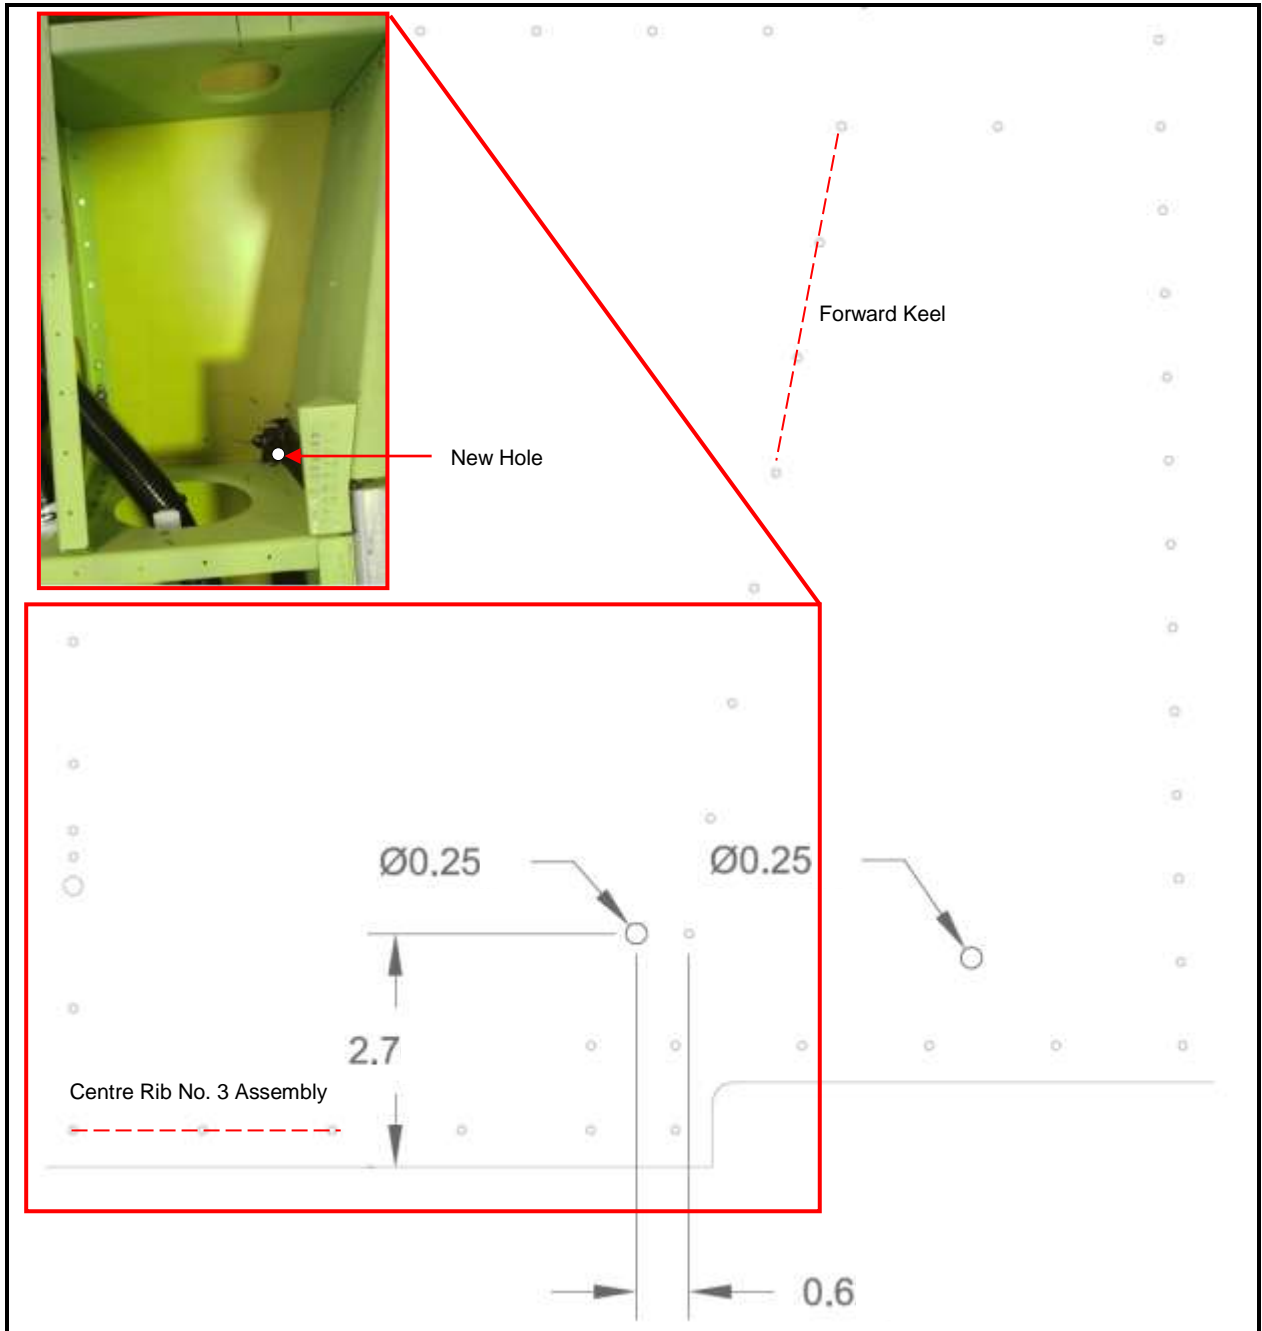

Figure 5: Hole 3
2. Figure 5 dimensions amended due to typographical error.
3. Five drain holes added see Figure 5, 6, 7, 8 and 9. Aircraft with cargo pod instructions part 2 added. Applicability changed to include aircraft up to GA8/GA8-TC 320-13-205.
10. Gain access through floor inspection panel forward left of the control panel and drill ¼ in. hole through bottom skin located between centre rib no. 2 (GA8-532023-115) and centre rib no. 3 assembly (GA8-532013-055), Figure 5.